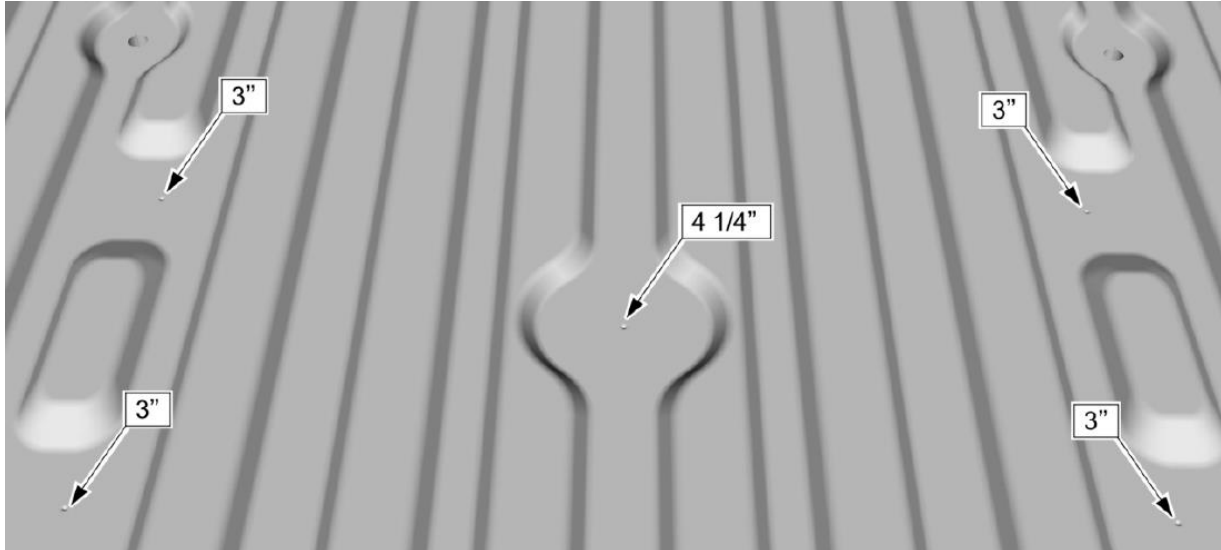

FIGURE 3
2. Using a 3" hole saw cut the 4 outer puck holes (See Figure 3).
3. Using the 4 1/4" hole saw cut the center gooseneck hole (See Figure 3).